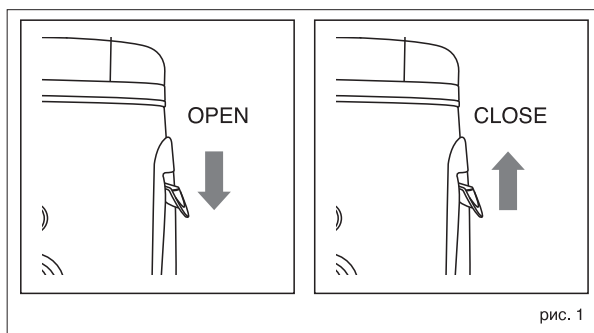

рис. 1
- Install the lid (3) on the juice collector (5) and fix it with by placing the locking arm (7) in vertical position.
- Install pulp container (8) to its place.
- Put the juice cup (11) under the juice draining spout (6).
- Open the juice cup (11) lid, lower the juice draining spout (6) by pressing it (fig. 1), close the juice cup (11) lid.
- Switch juice extractor on by setting the switch (10) to the position «I» (low speed) or to position «II» (high speed).
- After unit operation, switch it off by setting the switch (10) to the position «0», and unplug it.
- To prevent juice dripping set the juice draining spout (6) in horizontal position (fig. 1), to do this slightly lift the juice cup (11).